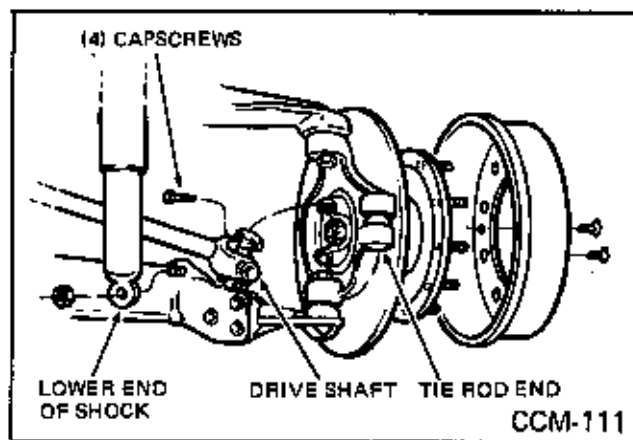

Fig. 106
2. Place two (2) jack stands under front jack pads.
4. Remove brake drum. (Fig. 106)
5. Remove lower end of shock and swing out of the way. (Fig. 106)
6. Remove tie rod from spindle support end (only). (Fig. 106)
7. Remove four (4) capscrews from driveshaft end and swing out of the way. (Fig. 106)